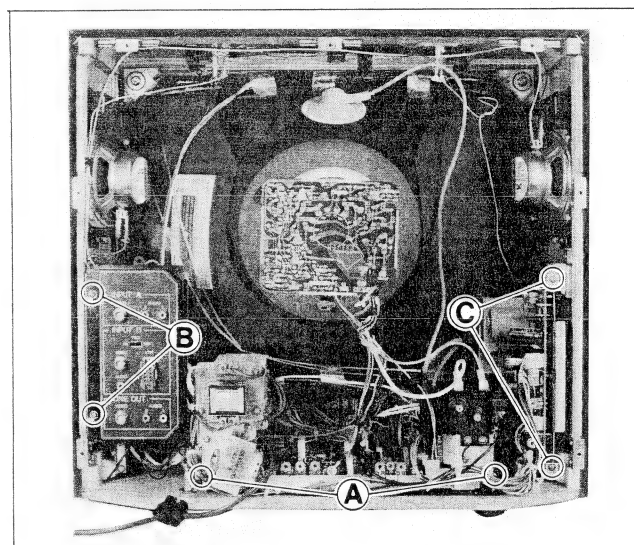

Fig. 8-2
1. Remove the two screws marked (A) in Fig. 8-2.
1. Loosen the two screws (B) shown in Fig. 8-2 and remove the input terminal ass'y.
1. Remove the two screws (C) shown in Fig. 8-2.